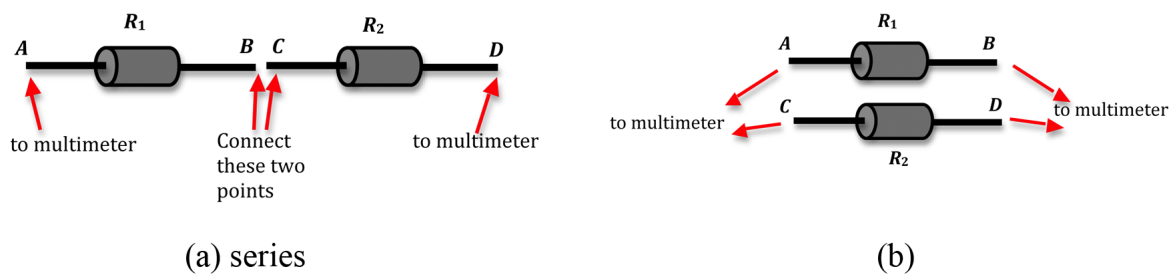

Figure 10: Connections for series and parallel combinations
- 26 Connect one end of the first resistor to one end of the second resistor using a connecting wire. This is a series combination of the two resistors. See Fig. 10.